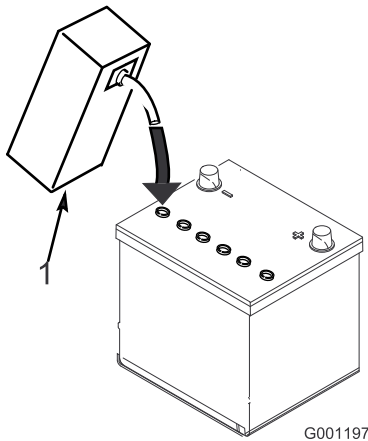

Figure 10
4. Allow approximately 20 to 30 minutes for the electrolyte to soak into the plates. Refill as necessary to bring the electrolyte to within about 1/4 inch (6 mm) of the bottom of the fill well (Figure 10).